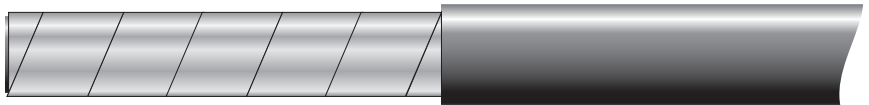

Figure 13.
1. First, remove the black outer sheath for a length of 15 cm by cutting radially round the HVSC Plus cable with a sharp knife. The lengthwise cut can also be completed with a knife, but take great care not to score or damage the copper tape. Cut and remove the material lining over the copper tape [Figure 13].